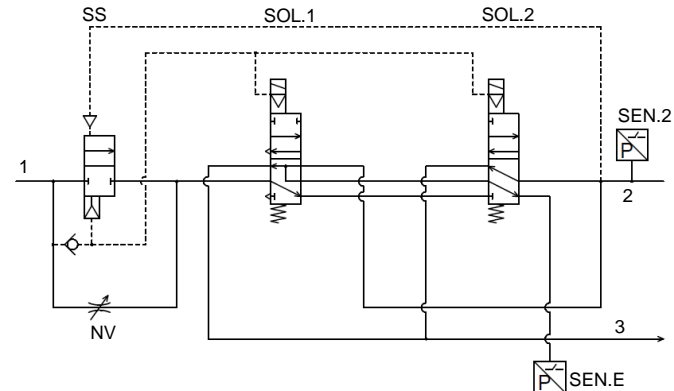
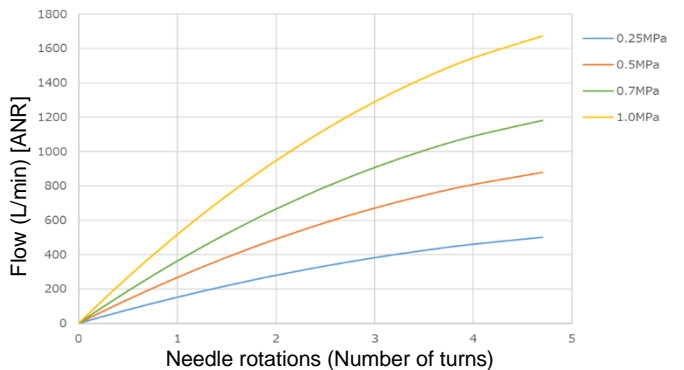

Figure 2.
Figure 4. Needle valve flow characteristics (Use this graph as a guide only)
- In a safety related application, the machine safety system will energise the safety valves (SOL.1 and SOL.2 in Figure 2) when the machine is safe to operate. When both valves are energised air will flow into the protected system via Port 2. The flow is initially limited by needle valve (NV) (see Figure 4) and pressure in the protected system will remain low as the system fills or actuators move slowly. The pressure will begin to rise as the system becomes full or the actuators stop moving. As Port 2 pressure increases soft start-up (SS) valve switches on and valve NV is by-passed.